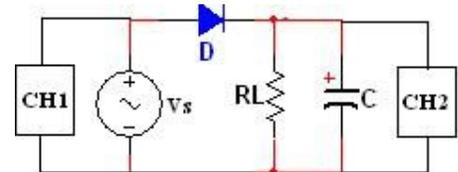

Figure 10
- 1- Construct the circuit shown in Figure 10.